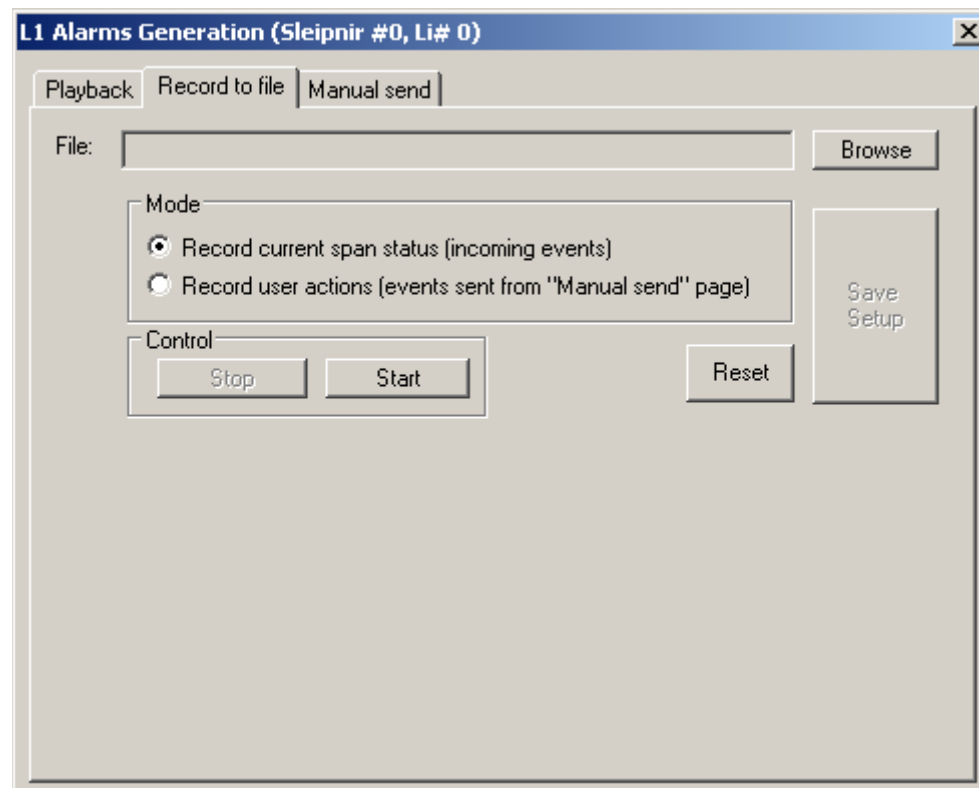

Figure 214
L1 Alarms Receiving (RX) dialog will be displayed (Figure 214).